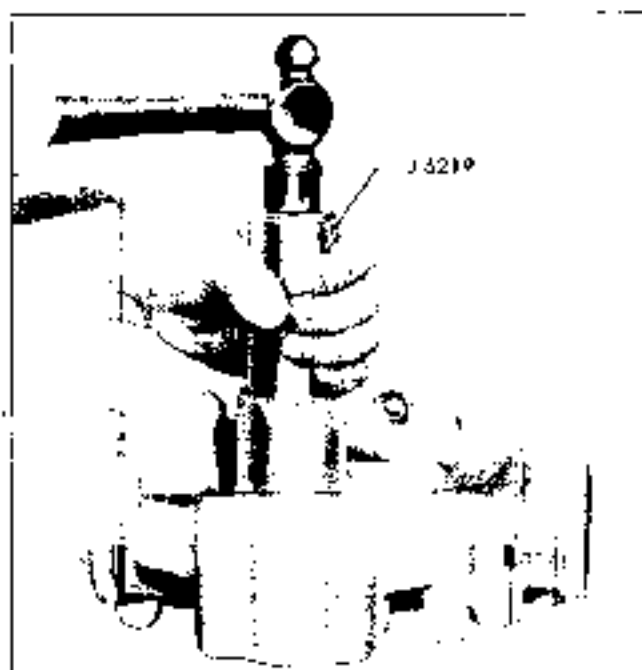

Fig. 9-62 Installing Pitman Shaft Seals Using J 6219
3. Lubricate and install pitman shaft seals; single lip seal, inner back-up washer, double lip seal, outer dust seal and retaining ring in housing bore (Fig. 9-61). Use tool J 6219 (Fig. 9-62) for seals and Truarc pliers for retaining ring. Make sure seal